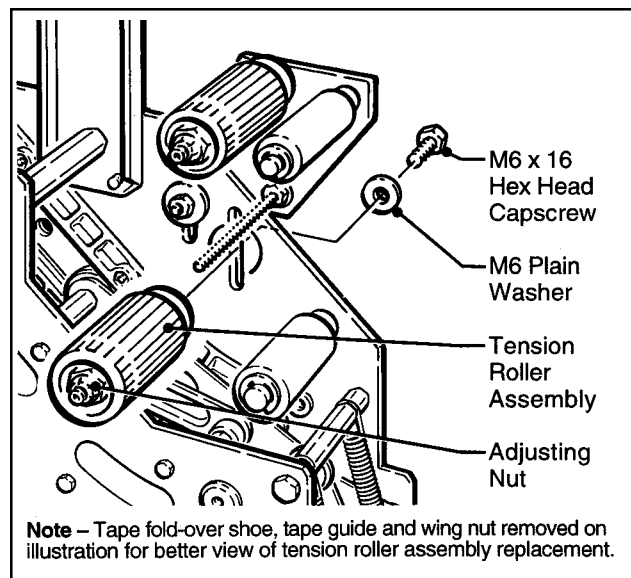

Figure 3
3. Attach tension roller assembly to taping head with M6 x 16 hex head capscrew (supplied with kit), and M6 plain washer. Install in same position it was before removal in Step 1. See Figure 3.